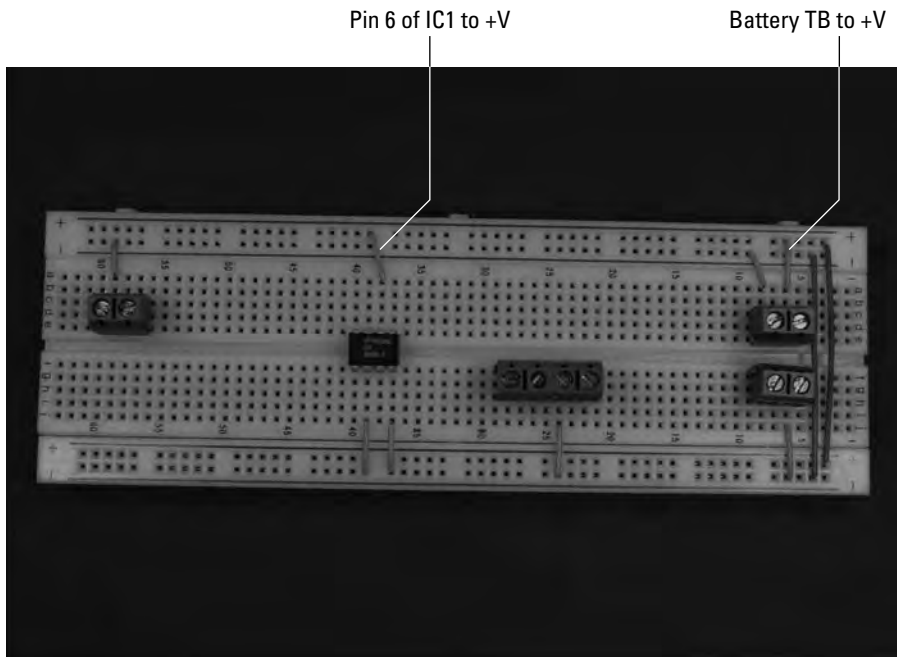

Figure 6-7:
3. Insert wires to connect the IC and the terminal blocks to +V, and a wire between the two +V buses to connect them, as shown in Figure 6-7.